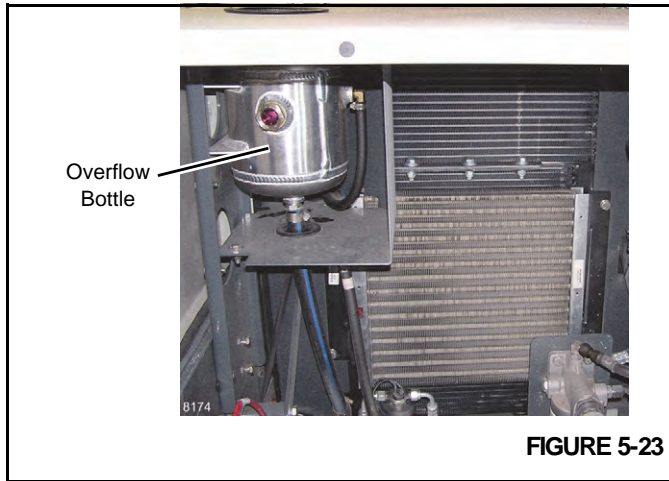

FIGURE 5-23
2. Check that the overflow bottle Figure 5-23 is at least half full. If coolant is low, fill the overflow bottle half way with a 50/50 mixture of glycol antifreeze and water. Do not add only water as this could cause rust to form in the radiator and engine.